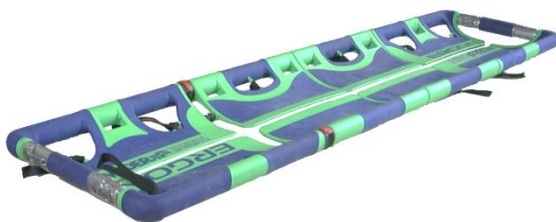

Figure 6a
1. Lay down the closed stretcher horizontally (fig. 6a);